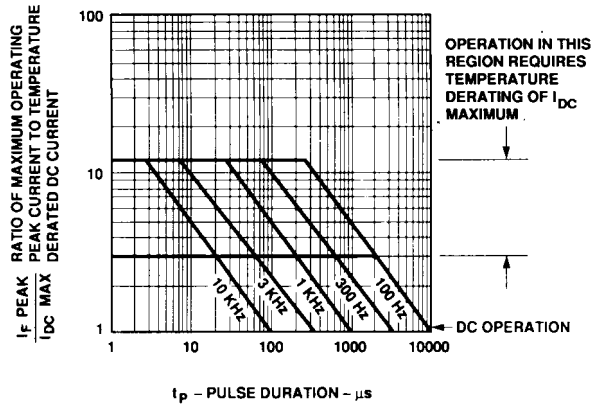

Figure 9. Maximum Tolerable Peak Current vs. Pulse Duration - Green.
- See Figure 9 to establish pulsed conditions.